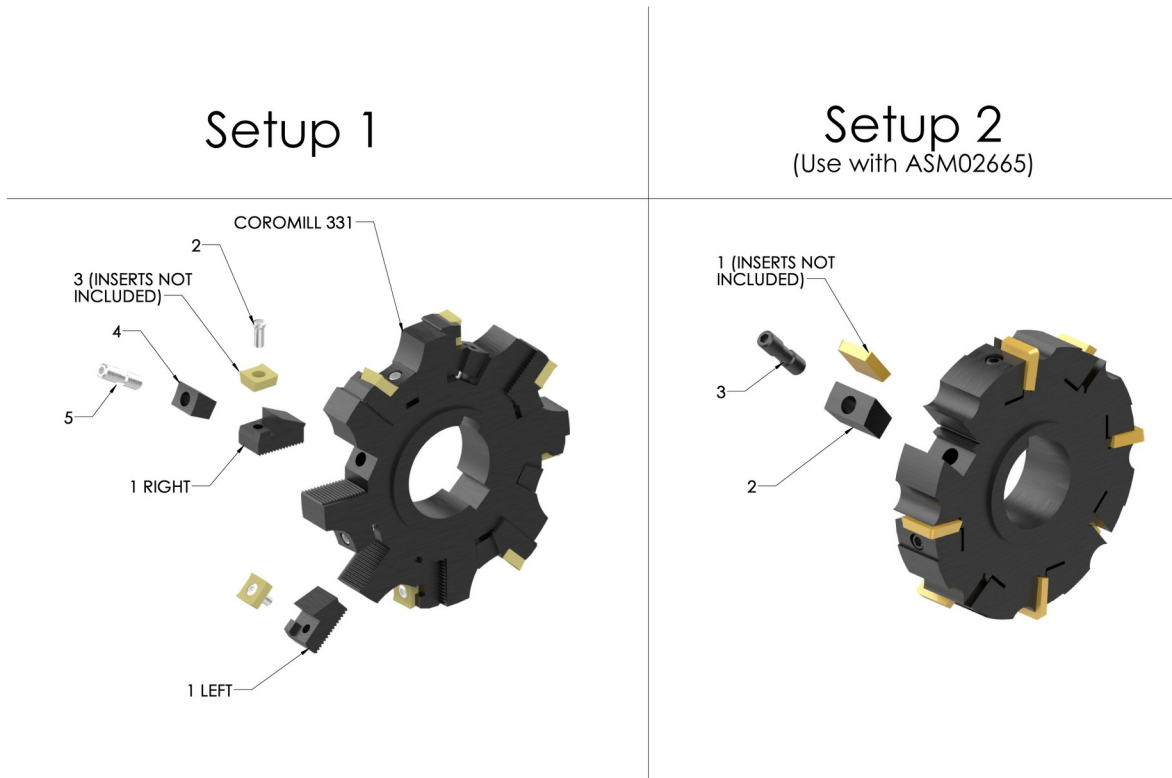

Figure 5. Slot Cutter Assembly
2. Remove the Insert Screw (2) shown in Figure 5 and install or index the dull Cutter Insert.
3. Insure that the Slot Cutter is Cassette Pocket (1) is clean.
4. Hand position the Cutter Insert (3) between in the Cassette.
5. Securely tighten the Insert Screw (2) with a torque of 26 lb.- in. (3 N·m). The Insert Screw is a type *Torx Plus 15IP*. The recommended *Sandvik* torque wrench is listed below.
6. Continue this process until all (8) eight Cutter Inserts are replaced or correctly indexed.
2. Remove the Wedge Screw (3) shown in Figure 5 and install or index the dull Cutter Insert.
3. Hand position the Cutter Insert (3) with the wedge.
4. Securely tighten the Wedge Screw (3). The Wedge Screw is a standard hex. The recommended *Michigan Drill* torque wrench is listed below.
5. Continue this process until all (8) eight Cutter Inserts are replaced or correctly indexed.